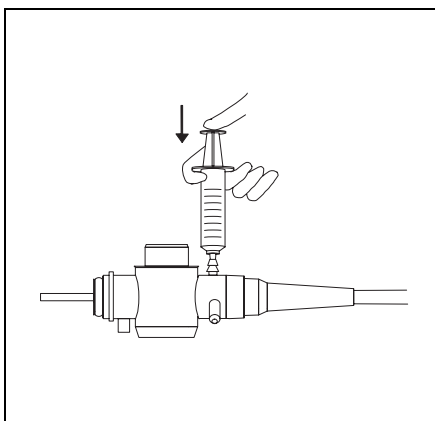

Figure 3.16
2. Remove the suction tube and connect a syringe filled with tap water to the endoscope's suction connector (see Figure 3.16).